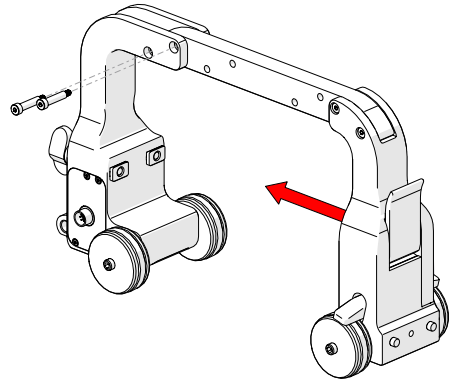

Fig. 19 - Align screw holes
2. With the two shoulder screws removed, position the two halves of the corrosion link closer together, align the screw holes and insert the shoulder screws (Fig. 19).